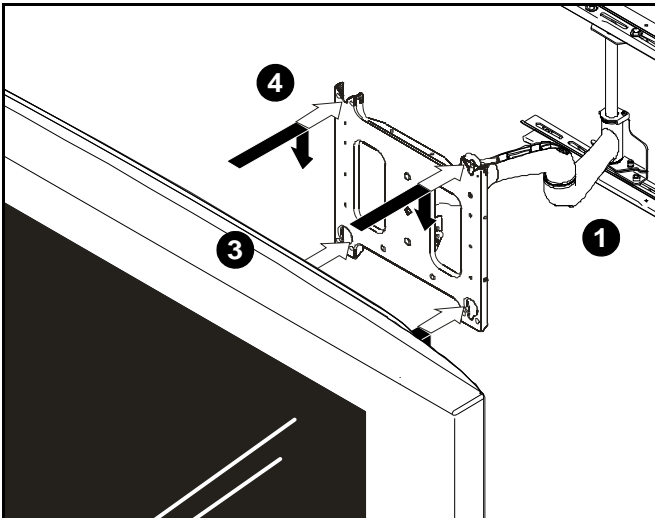
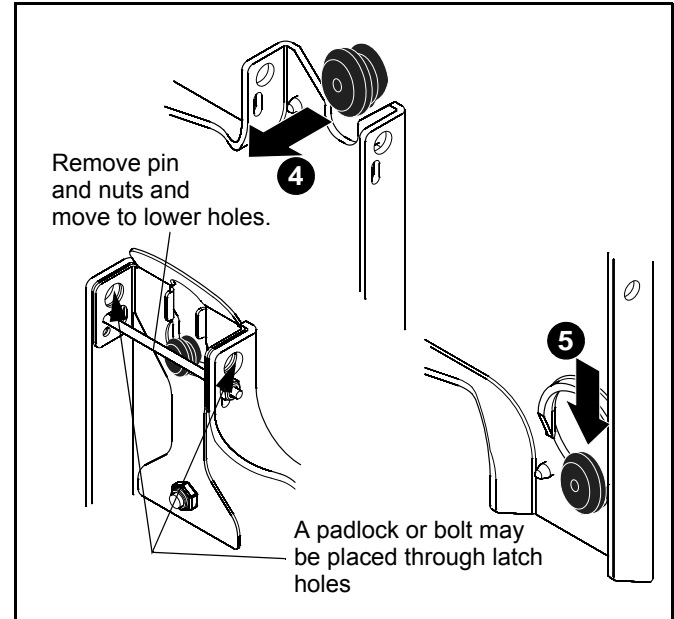

Figure 6
Figure 7
1. Move mount faceplate to extended position by grasping faceplate and pulling outward away from wall. (See Figure 6)
2. While supporting both sides of display, align four mounting buttons on display or interface bracket with four mounting holes in faceplate. (See Figure 6)
3. Lower display into place listening for audible "click" to ensure recessed area of mounting buttons are properly seated in lower area of mounting holes and "click lock" mechanism has engaged. (See Figure 6) and (See Figure 7)
NOTE: Holes are provided in the faceplate for use with a padlock or similar locking device, if desired. In addition, the pin and nut may be removed from the upper holes and moved to the lower holes for use as a more permanent locking device. (See Figure 7)